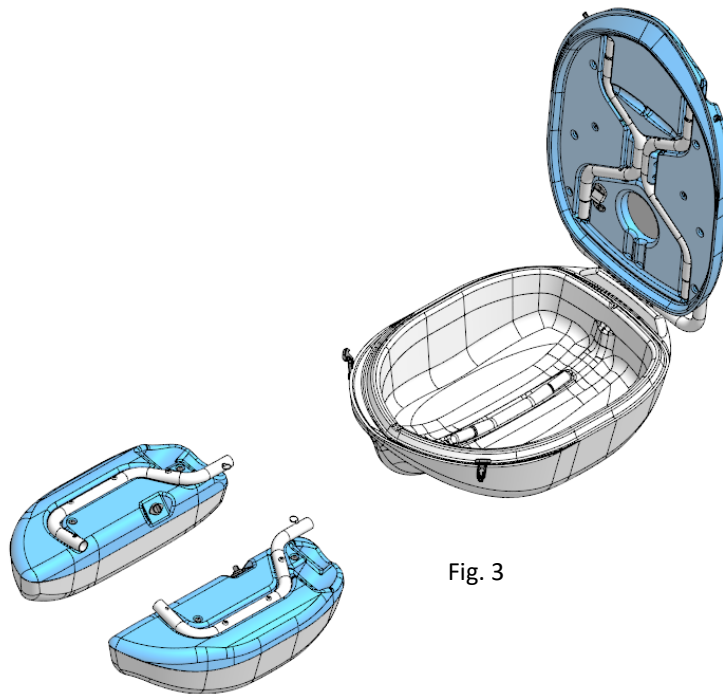
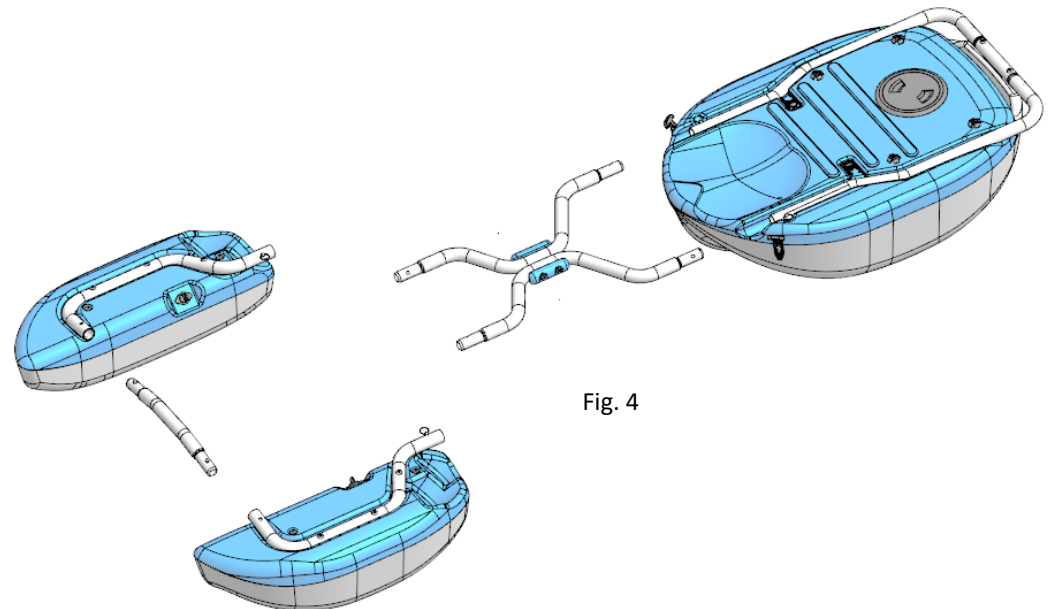

Fig. 3
Fig. 4
- 2) Unpack the two **FRONT FLOATS** (fig. 3), the **FRONT CROSS FRAME** and the **MID FRAME**, which is snapped to the underside of the lid. Shut the lid and secure with the two T-handle draw latches. (fig. 4)